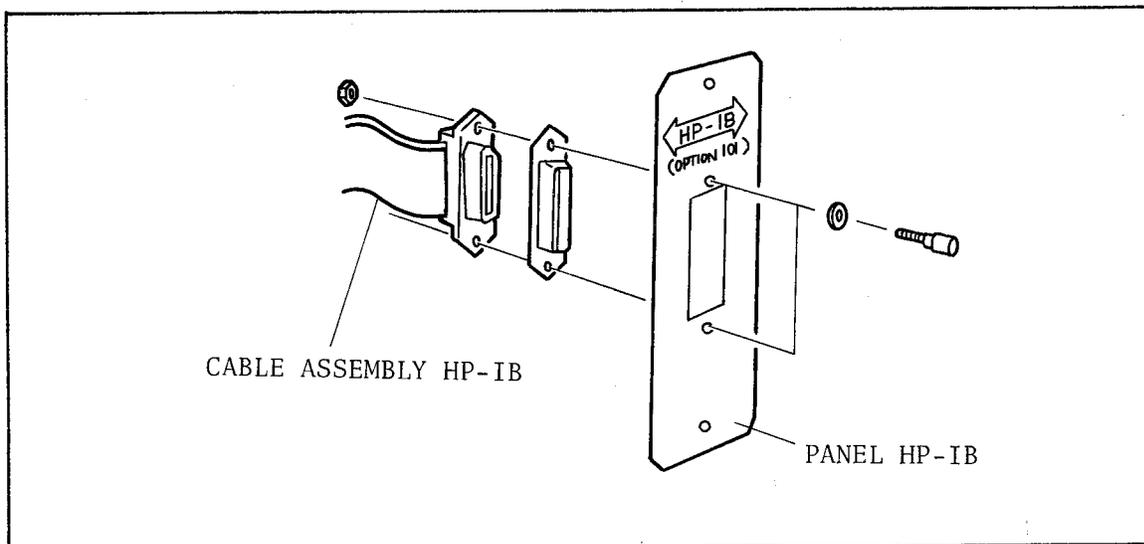

Figure 2-5. HP-IB Connector Panel Assembly
1. Assemble the HP-IB Cable Assembly and HP-IB Panel as shown in Figure 2-5.